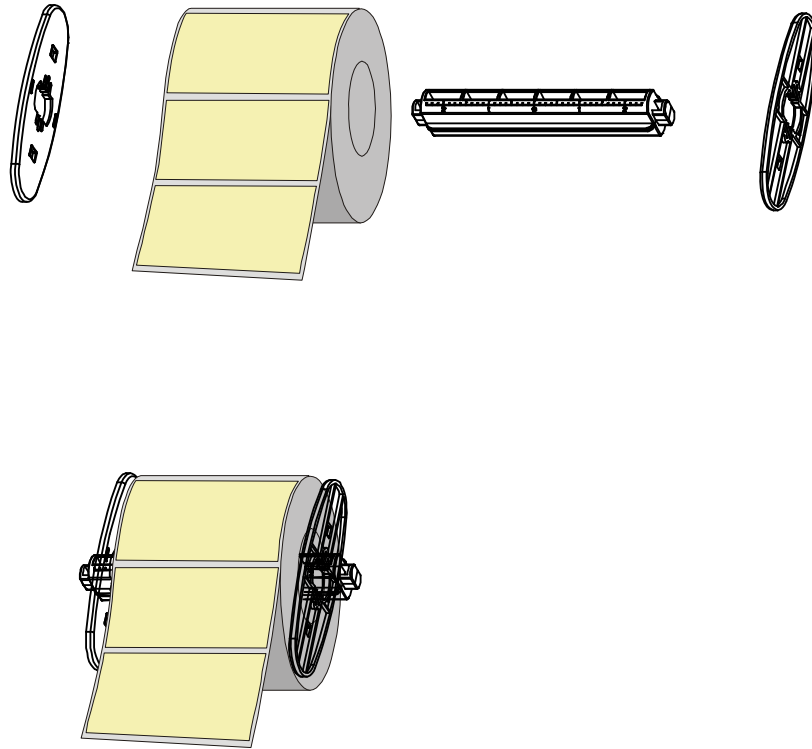

Figure 6-2
2. Load a roll of media (labels facing up) on the Media Spindle, then slide the two Media Roll Guides with their smooth sides toward the media onto the Media Spindle from each end until snug against the media. If you are placing a roll of media with a 3" ID core, please slide the two Core Adapters onto the Media Spindle first. (see Figure 6-2)